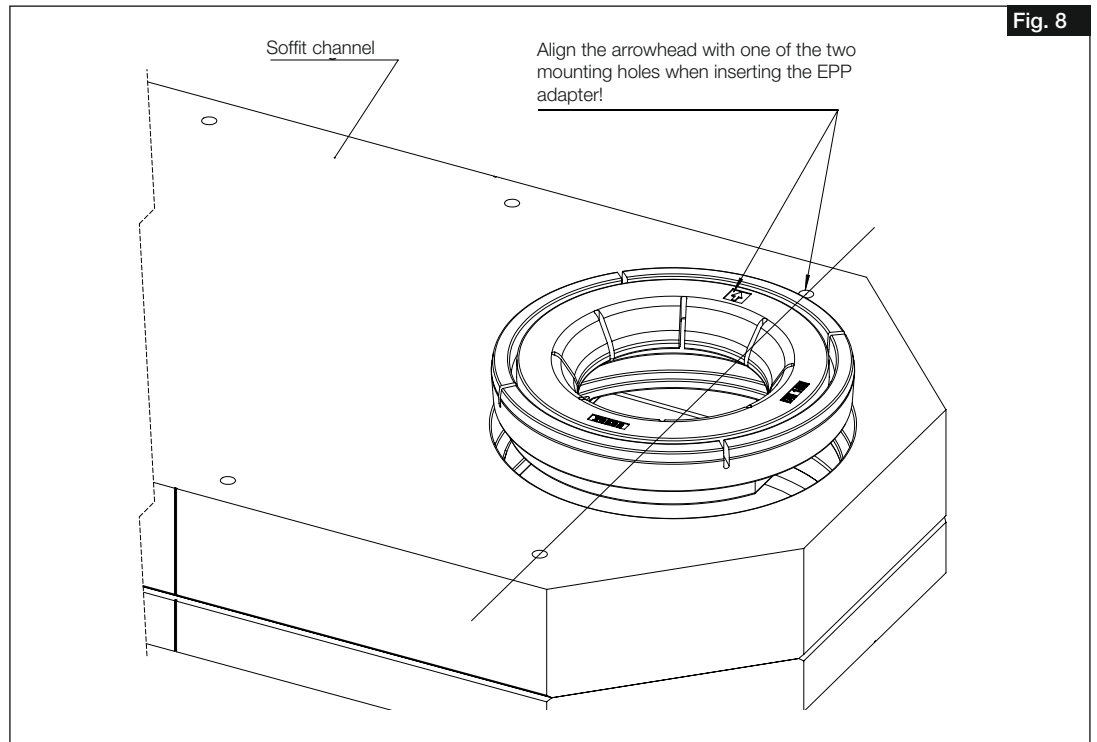

Fig. 8
2. Insert EPP adapter in soffit channel (Fig.8).